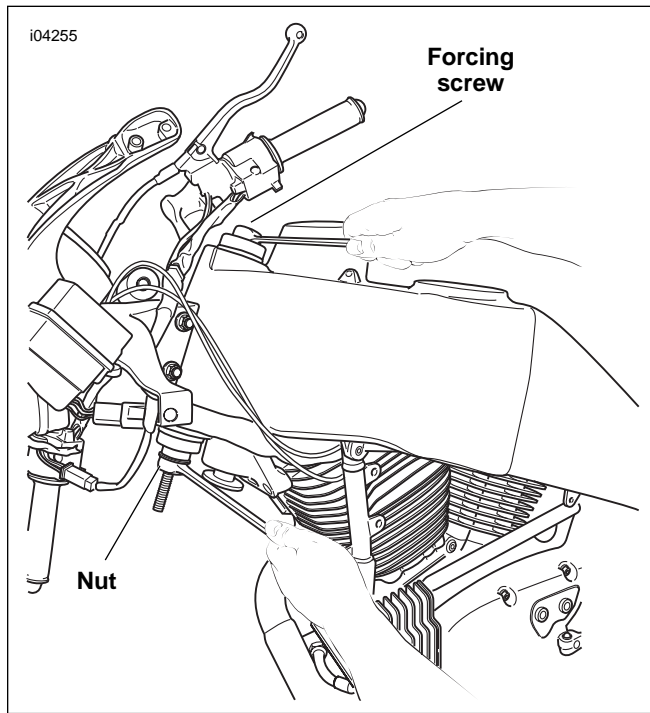

Figure 2-83. Install Bearings
6. See Figure 2-83. Hold the forcing screw while tightening the nut to draw the bearing into the steering head. Continue tightening until the bearing is fully seated.